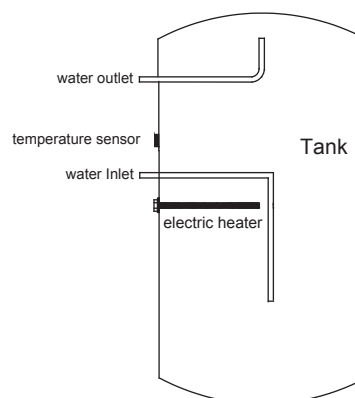

Fig.8.1
- Two heating parts are included in the unit, one heat pump and one electric heater, which is installed in the middle. All the heating parts do not work together. This unit has one temperature sensor, which is installed at the upper of the water tank. see Fig.8.1